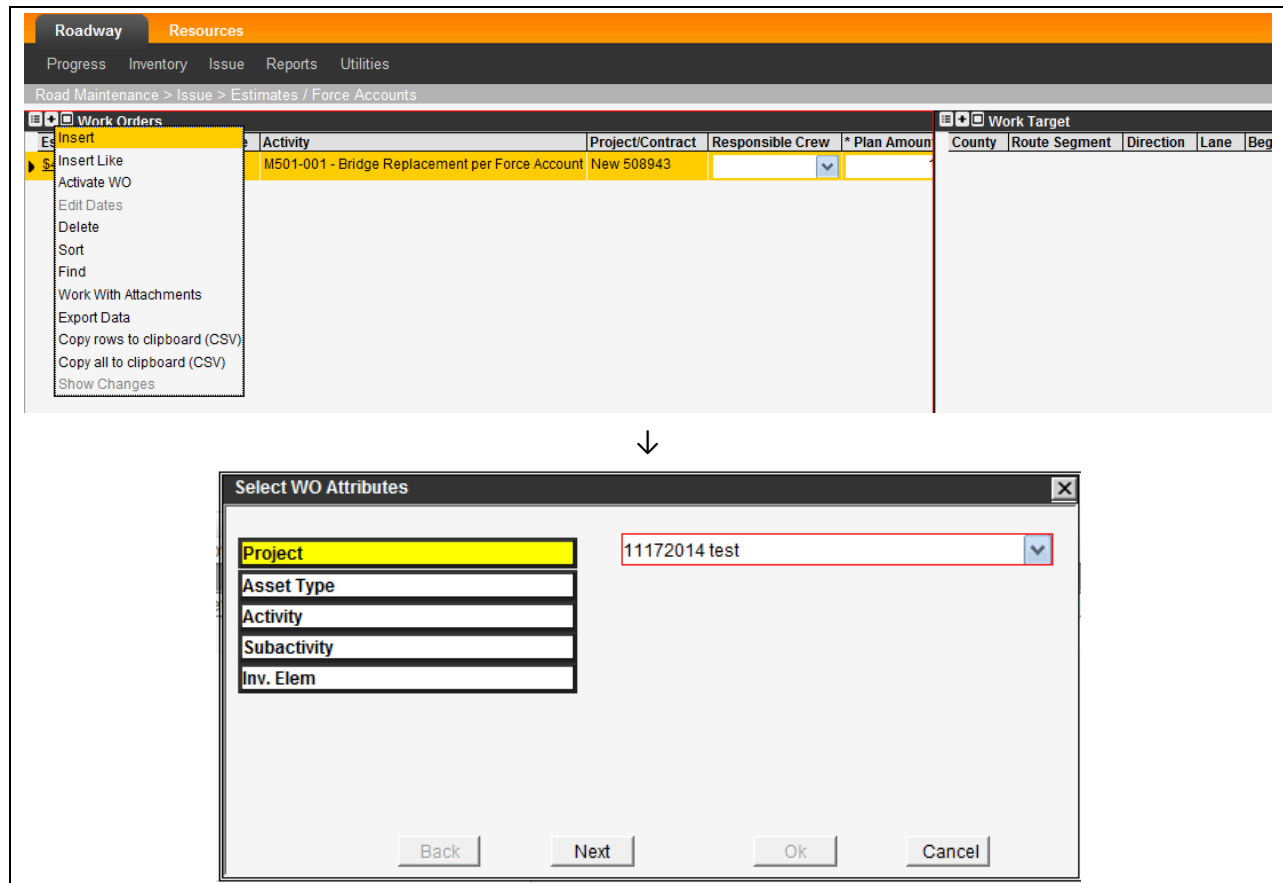

Figure 5-17. Issue ~ Estimates / Force Accounts Window
1. Navigate to the Road Maintenance > Issue > Estimates / Force Accounts window (Figure 5-17).
2. In the Work Orders pane (upper-left) of the window (Figure 5-17), perform an **Insert** function to begin creating a Work Order.
3. In the Select WO Attributes dialog box (Figure 5-17), configure the Work Order as follows: